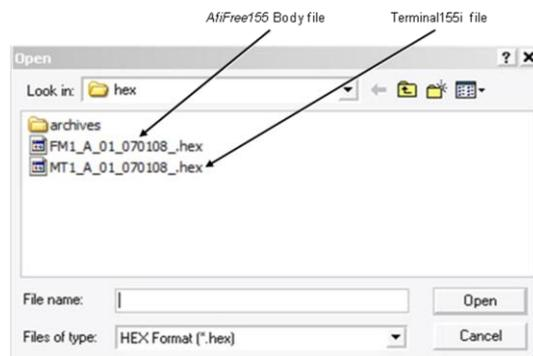

Figure 36: *AfiFree 155i* Software Files
- The name of the software file for the *AfiFree155* bodies begins FM1 (Figure 36).
- The name of the software file for the *Terminal 155i* begins MT1 (Figure 36).